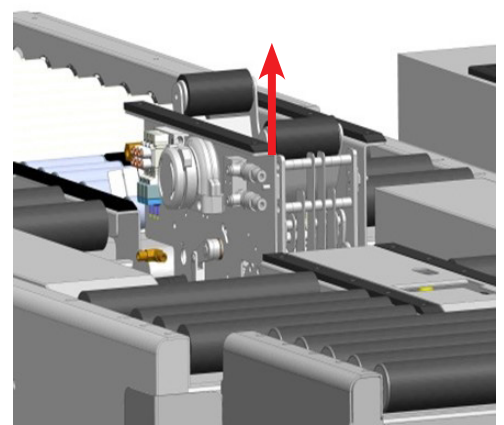

Figure 59: Remove Tape Head
6. Lift tape head upwards to remove from tape head box, (refer to Figure 59).